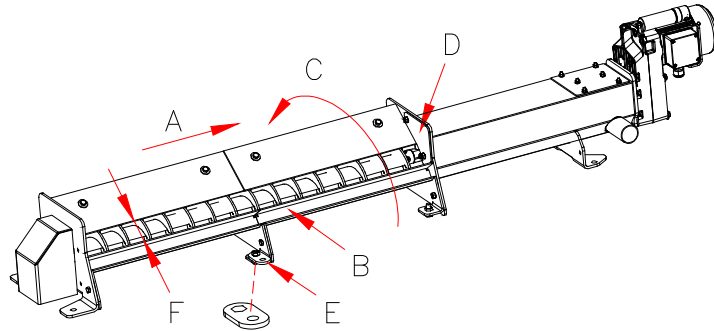

Fig:1
6. Screw the conveyor trough securely to the storeroom floor. **Important:** the conveyor trough must be aligned flush using the floor mounting plates (E, Fig. 1) and screwed securely to the floor so that it is straight and has no sags or humps.